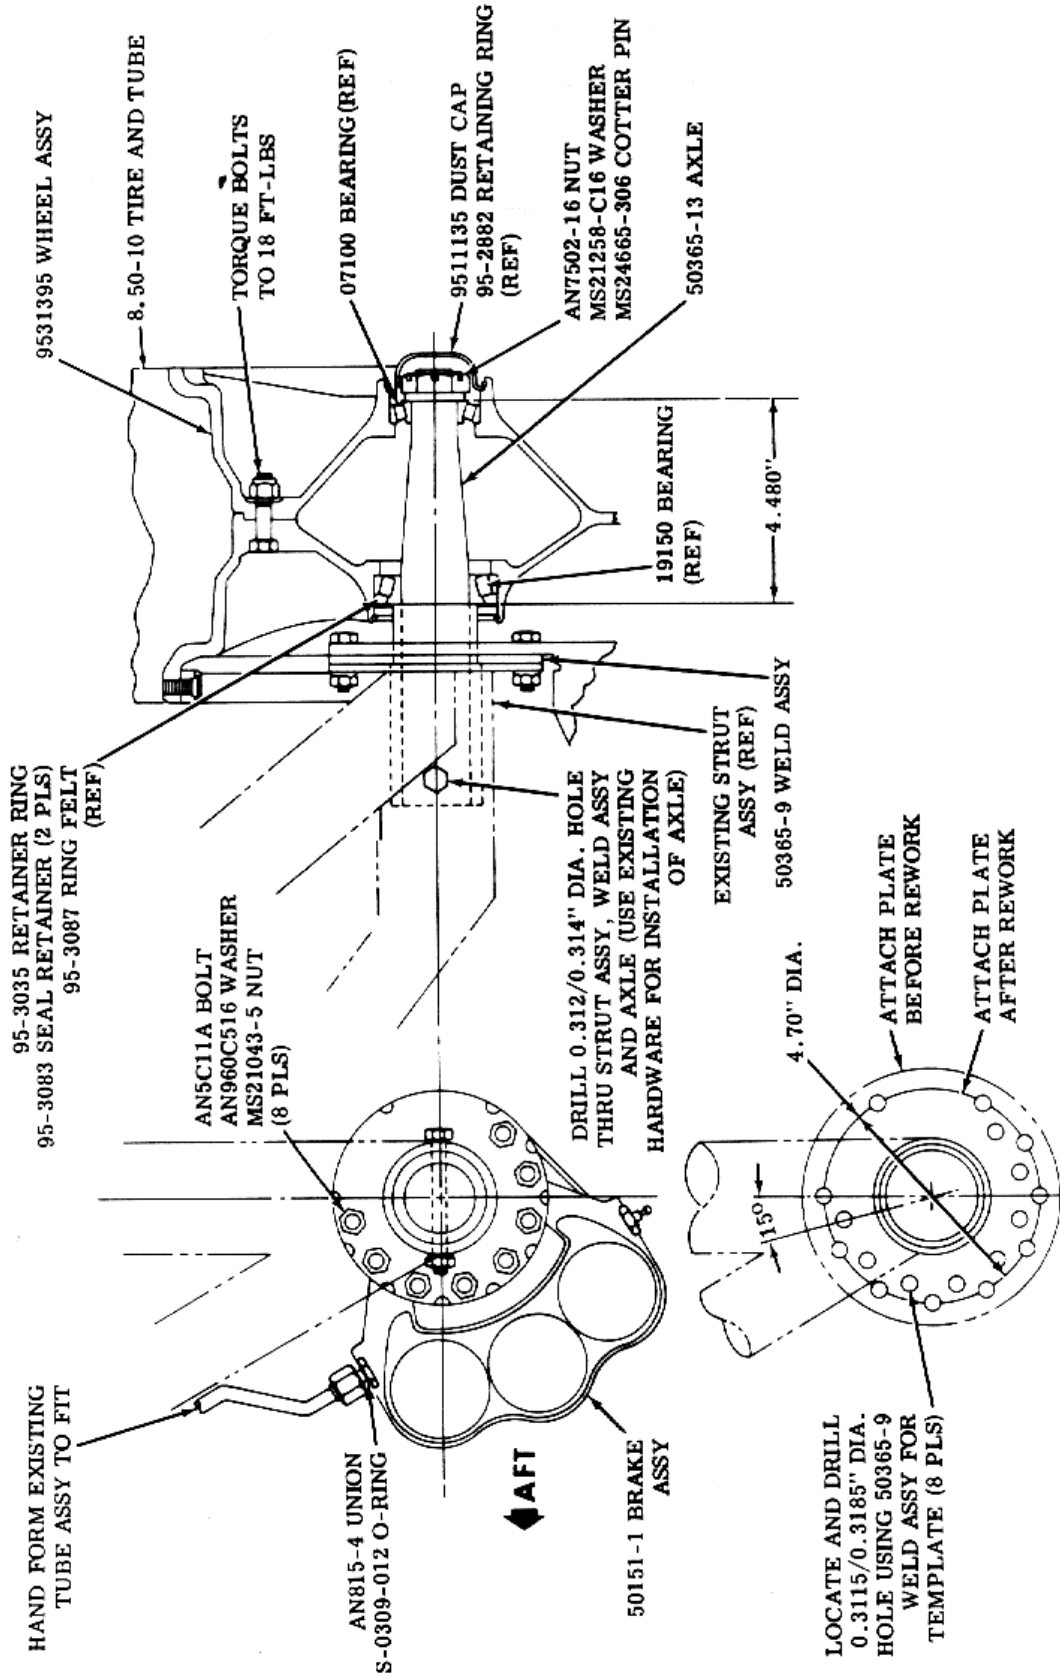

Figure 1.
- G. Using 50365-9 weld assembly as template, insert -9 weld assembly in existing landing gear strut assembly and scribe diameter of -9 weld assembly on existing brake attach plate (see Figure 1.).
- H. Remove 50365-9 weld assembly from strut assembly and cut existing brake attach plate to 4.70 inch diameter (see Figure 1.).
- I. Reinsert 50365-9 weld assembly in landing gear strut assembly and drill eight (8) 0.3150 ( $\pm 0.035$ ) - inch diameter holes in existing brake attach plate (see Figure 1.).
- J. Temporarily bolt 50365-9 weld assembly to brake attach plate, insert 53065-13 axle into -9 weld assembly and drill a 0.313 ( $\pm 0.001$ ) inch diameter hole in weld assembly and axle through existing hole in strut assembly (see Figure 1.).
- L. Install 50365-9 weld assembly and 50365-13 axle on landing gear strut assembly using existing hardware (see Figure 1.).
- M. Install 50151-1 brake assembly on brake attach plate and reconnect existing brake line to brake assembly (see Figure 1.).
- N. Install tube and tire on 9531395 wheel assembly. Torque wheel half bolts to 18 foot-pounds (see Figure 1.).
- O. Install 19150 bearing, 95-3083 seal retainer (2 places), 95-3087 ring felt in inner wheel half with 95-3035 retainer ring (see Figure 1.).
2. While rotating wheel, back nut off to zero (0) inch – pounds.